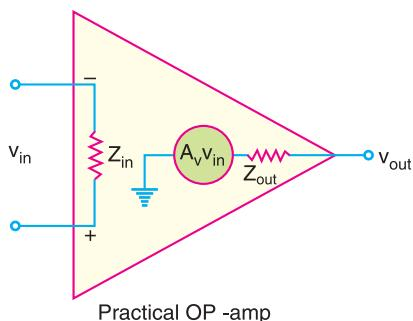

Fig. 25.42
**(i) Practical OP-amp.** Fig. 25.42 shows the a.c. equivalent circuit of a practical OP-amp. The characteristics of a practical OP-amp are : *very high voltage gain*, *very high input impedance* and *very low output impedance*. The input voltage  $v_{in}$  appears between the two input terminals and the output voltage is  $A_v v_{in}$  taken through the output impedance  $Z_{out}$ . The consequences of these properties of a practical OP-amp are :